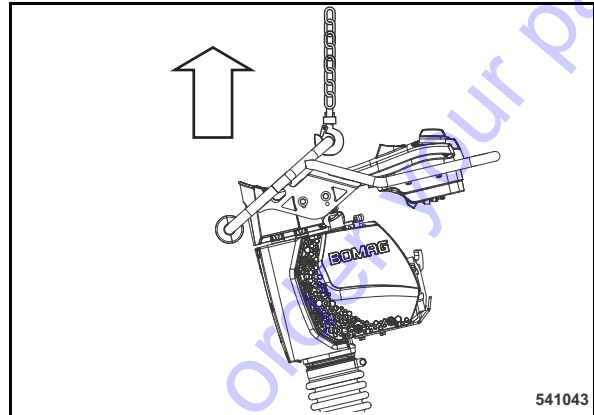

Fig. 32
- For loading the machine attach the lifting gear only to the lifting eye provided for this purpose (Fig. 32).